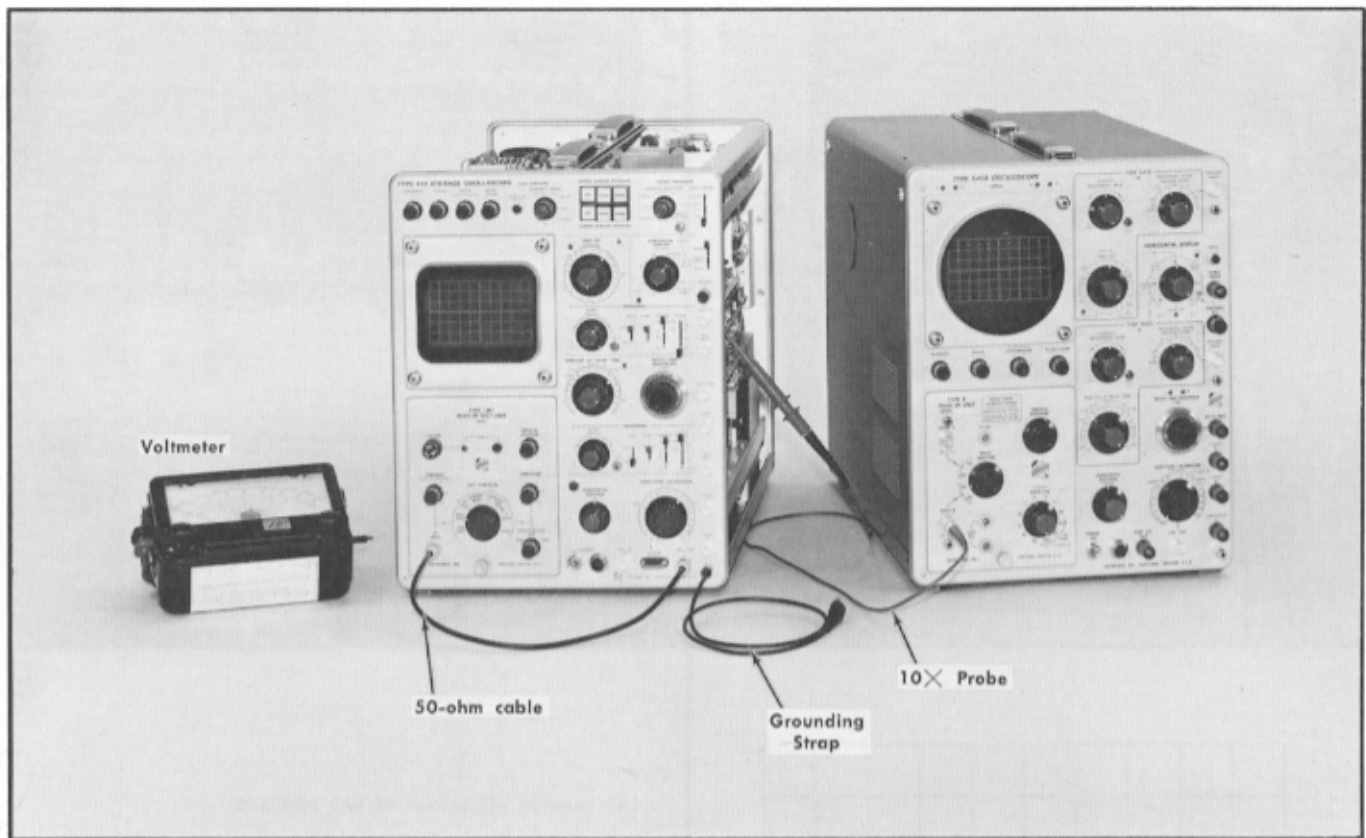

Fig. 6-18. Equipment setup for steps 20 through 24.
- a. Equipment setup is shown in Fig. 6-18.